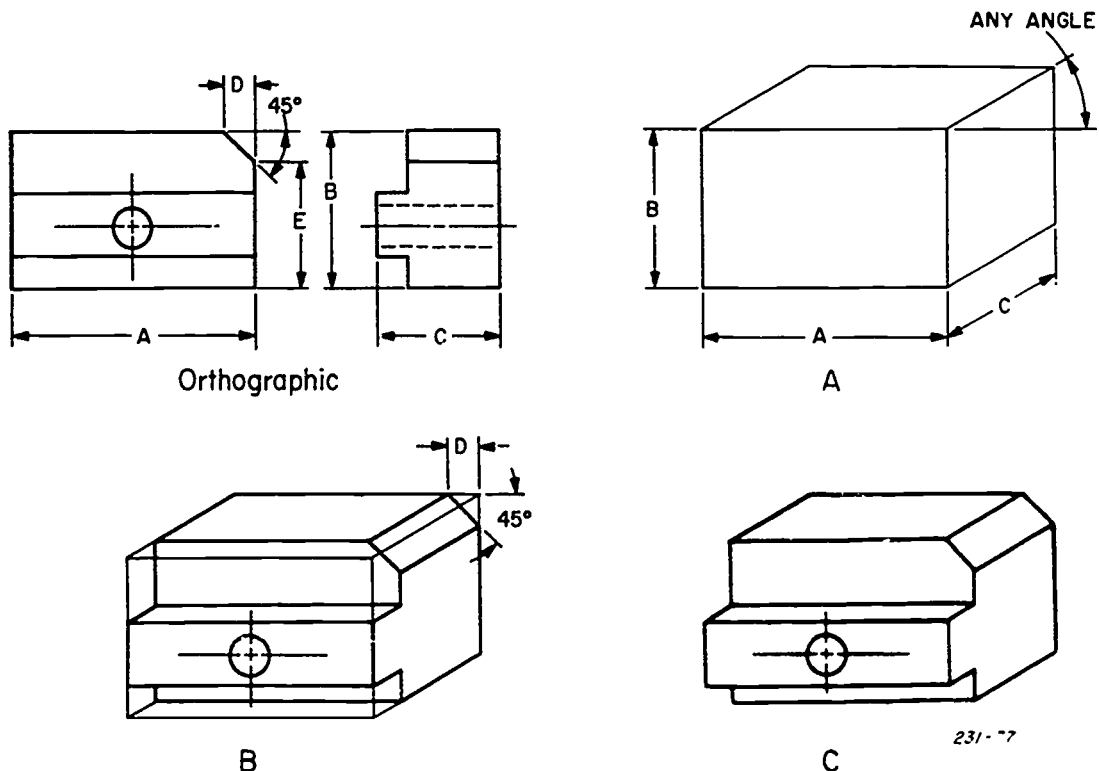

Figure 4-67. Box construction method.
**Box construction method.** The steps for making an oblique drawing from the orthographic views are shown in figure 4-67. Refer to the figure as you check the following steps. You'll see that the principles of the box method in oblique and isometric drawing are identical.